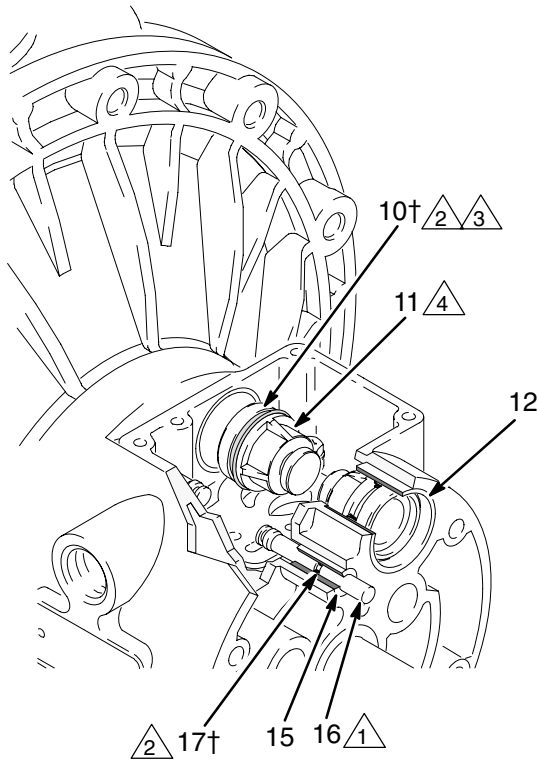

Fig. 9
4. Pull the two actuator pistons (11) out of the bearings (12). Remove the u-cup packings (10) from the pistons. Pull the pilot pins (16) out of the bearings (15). Remove the o-rings (17) from the pilot pins. See Fig. 9.
6. Inspect the bearings (12, 15) in place. See Fig. 9. The bearings are tapered and, if damaged, must be removed from the outside. This requires disassembly of the fluid section. See page 20.
4. Install an o-ring (17) on each pilot pin (16). Grease the pins and o-rings. Insert the pins into the bearings (15), **narrow** end first. See Fig. 9.
5. Install a u-cup packing (10) on each actuator piston (11), so the lips of the packings face the **narrow** end of the pistons. See Fig. 9.
6. Lubricate the u-cup packings (10) and actuator pistons (11). Insert the actuator pistons in the bearings (12), **wide** end first. Leave the narrow end of the pistons exposed. See Fig. 9.